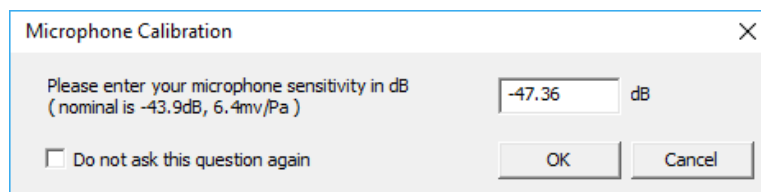

Figure 1 - Initial microphone calibration
4. The first time you run FINE R+D the software will ask for your microphone calibration data (Sensitivity), see Figure 1.